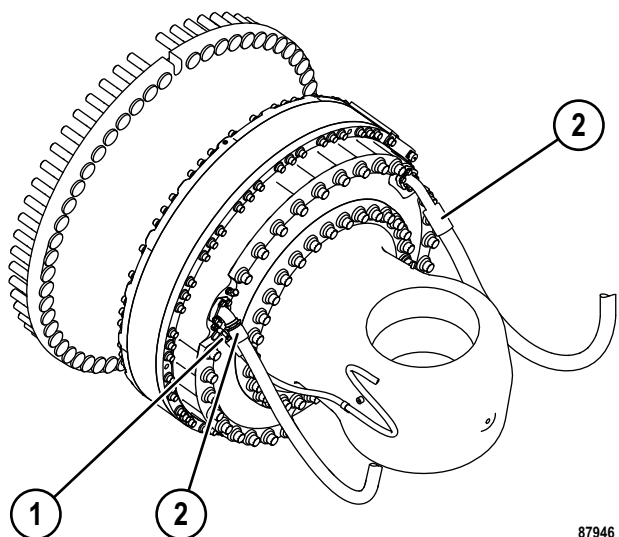

FIGURE 50-56. FRONT BRAKE LINES
7. Disconnect brake cooling lines (1, Figure 50-56) and brake apply line (2) at the inlet and outlet ports on the brake housing. Plug the lines and ports to help prevent contamination.